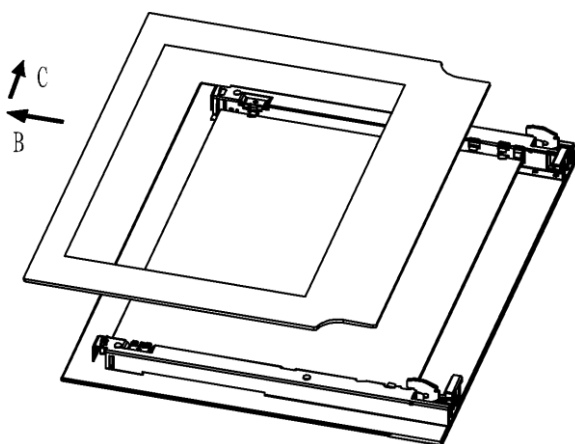

Fig.2
- ⊞ Now, shutting the door slightly, you can lift it out by pulling out the hooks “A” as shown in figure 2.
2. Take out inner glass slowly (Fig.2)